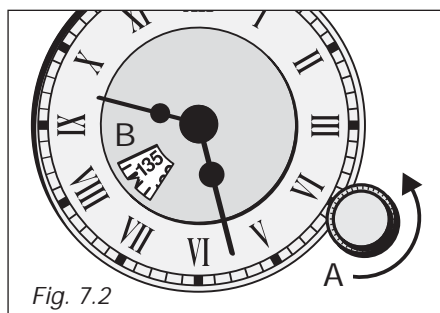

Fig. 7.2
- Set the cooking time by rotating knob "A" anticlockwise until desired time in window "B" coincides with the indicator (fig. 7.2).